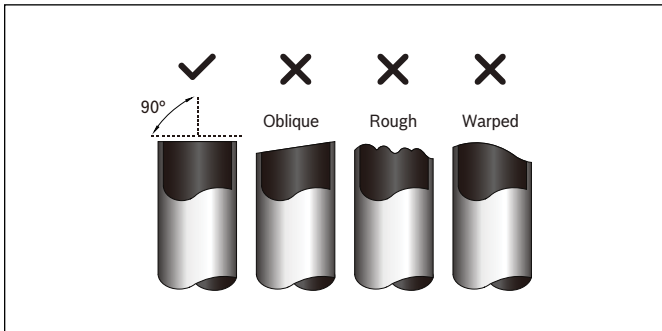

Figure 47
3. Make sure that the pipe is cut at a perfect 90° angle. Refer to Fig.47 for cut examples.